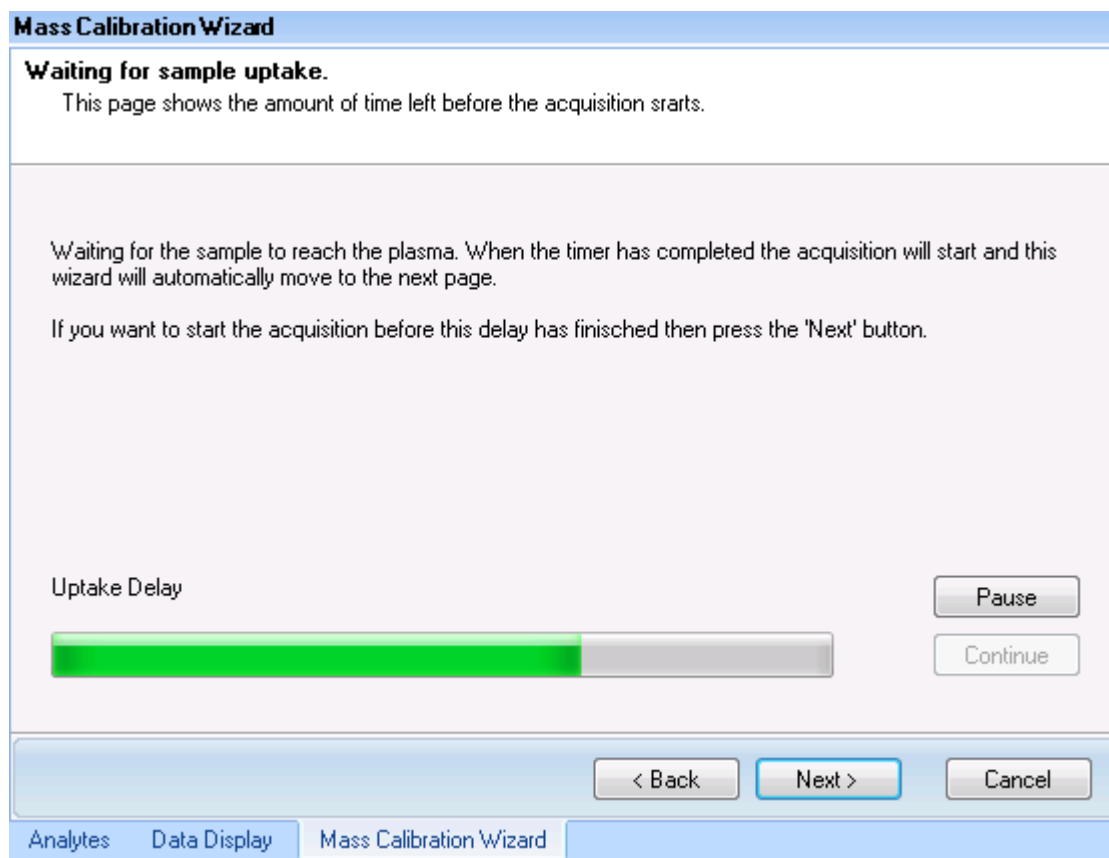

Figure 4-96. Waiting for the sample uptake in Mass Calibration wizard
9. Place your sample probe into the solution and click **Next**, see Figure 4-96.